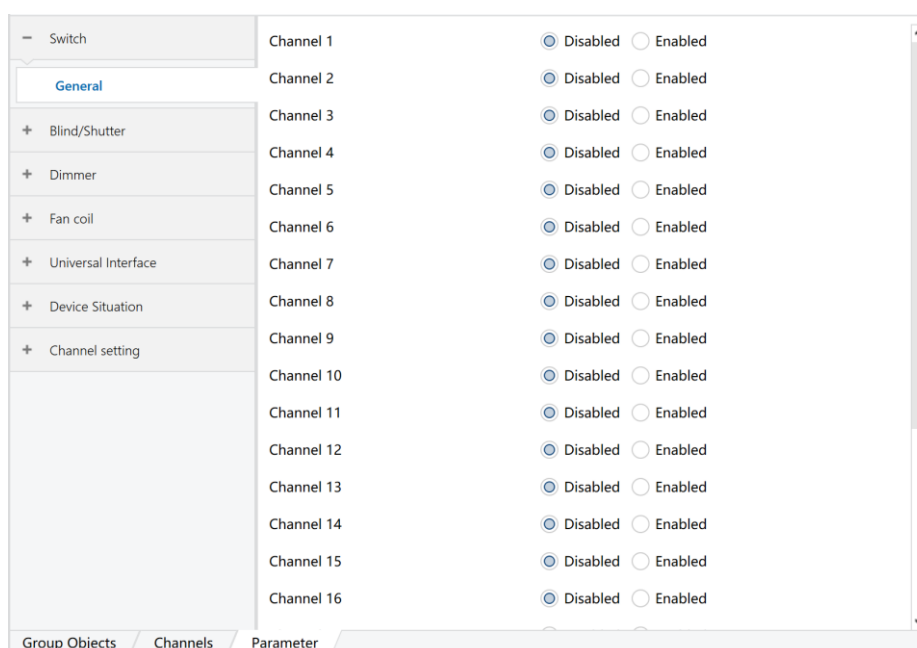

Figure 6.1.1
- 1) Open the 10A series multifunctional actuator parameter setting interface in ETS5, as shown in Figure 6.1.1. The parameter "Channel X" indicates the output of the corresponding channel. The parameter "Field control" indicates the field control function. When the "Off"